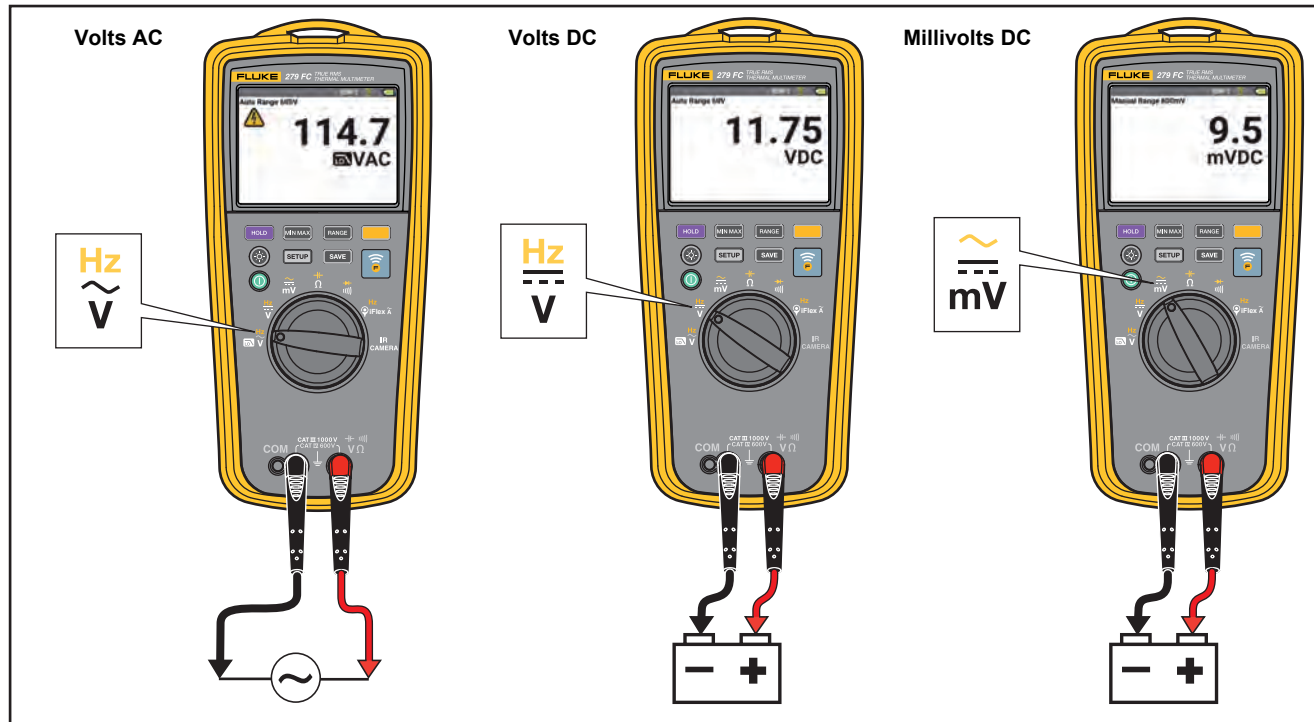

Figure 4. AC and DC Voltage Measurements
- AC and DC Voltage Measurements. See Figure 4.
1. Turn the rotary dial to $\approx$. See Figure 4.